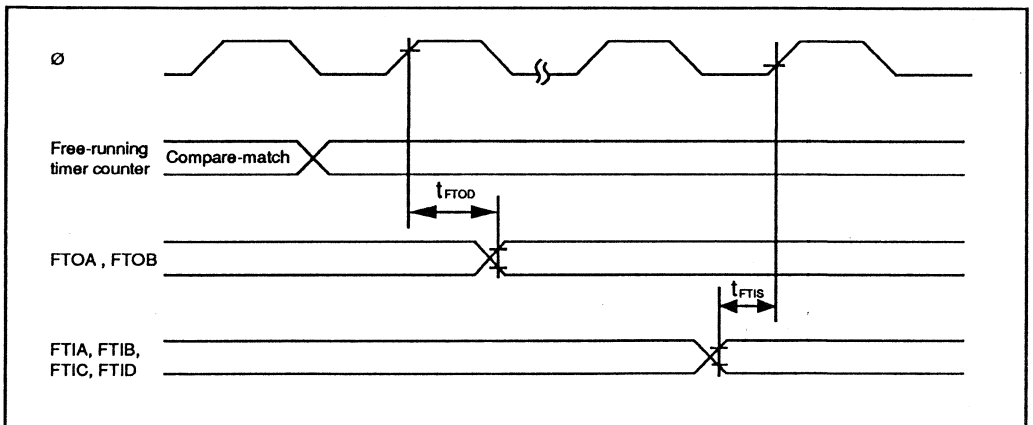

Figure 17-11. Free-Running Timer Input/Output Timing
17.3.3 16-Bit Free-Running Timer Timing	Figures 17-11 to 17-12